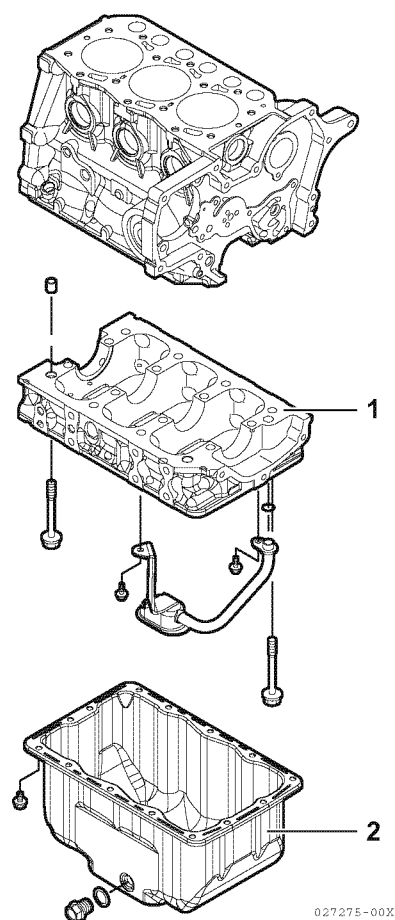

Figure 6-101
2. Apply a continuous bead of ThreeBond Liquid Gasket No. 1212, Yanmar Part No. 977770-01212, to the mounting surface of the oil pan (**Figure 6-101, (2)**) and crankcase extension (if equipped) (**Figure 6-101, (1)**). Be sure to circle each bolt hole.